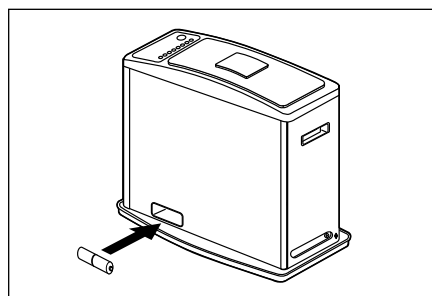

Fig. 3
6. INSTALLEZ LES PILES (Fig.3)